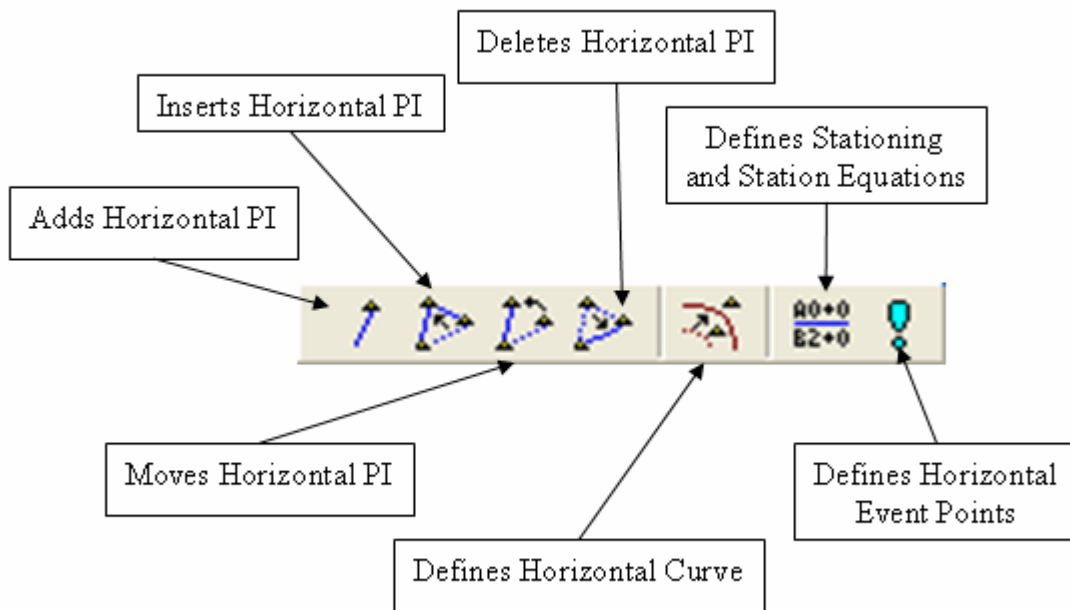

Figure 4-2 InRoads Horizontal Curve Set Toolbar
- A. Click on **Tools > Customize**. On the Toolbars Tab, toggle to the **Horizontal Curve Set, Vertical Curve Set and Locks**. Click on **Close** and dock them in a logical place on the InRoads Dialog box. Figure 4-2 shows the different horizontal design tools available on the toolbar.